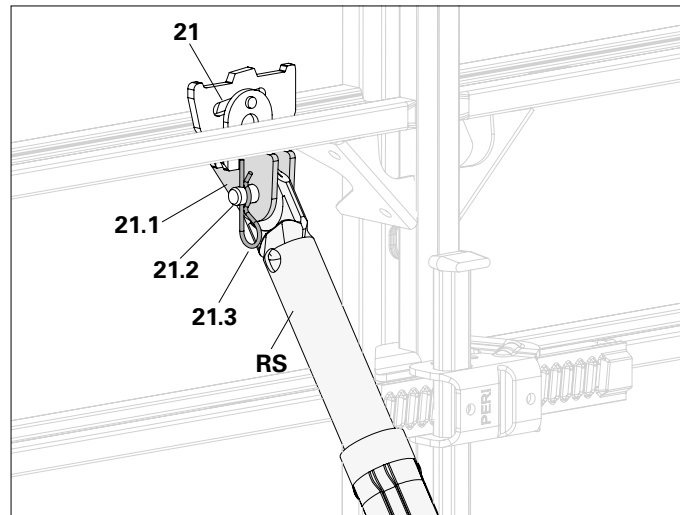

Fig. A6.02
Connect Push-Pull Prop (RS) and connection lugs (21.1) with bolts (21.2) and cotter pins (21.3). (Fig. A6.02)